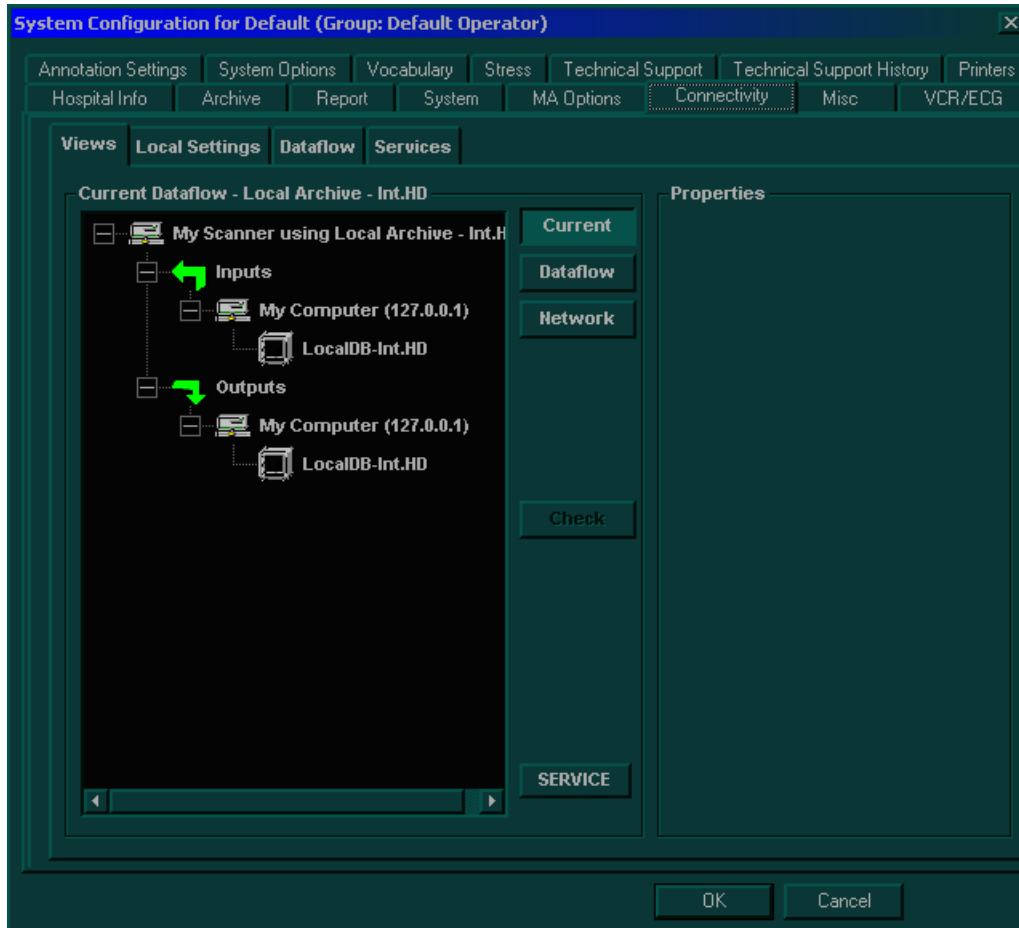

Figure 3-36 Connectivity Tab
- 3) Trackball to the **Connectivity** tab and press **Select**. The **Connectivity** tab is displayed, with the **Views** subsidiary tab selected by default, as shown in Figure 3-36 "Connectivity Tab" on page 3-54.
- 2) Trackball to the **Connectivity** tab and press **Select**. The **Connectivity** tab is displayed, with the **Views** subsidiary tab selected by default, as shown in Figure 3-36 "Connectivity Tab" on page 3-54.